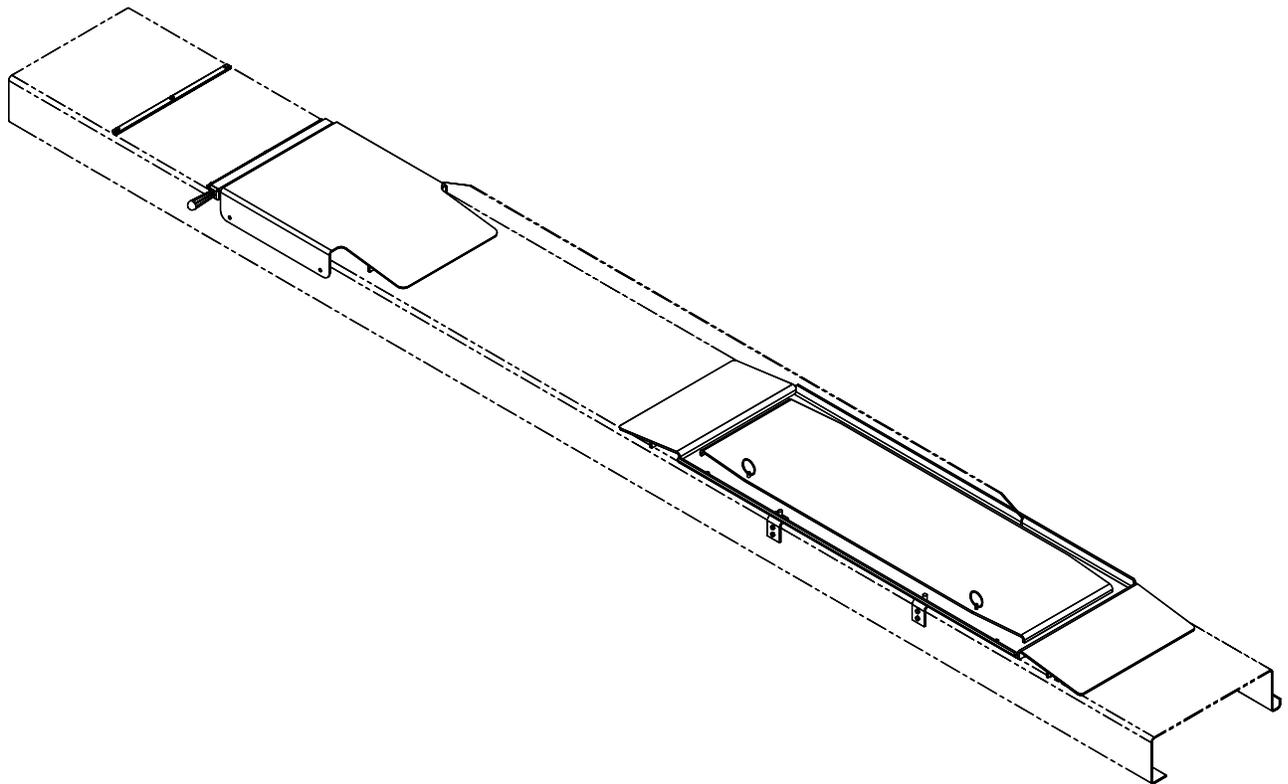

**FIG 5**
- c. Attach the 1/4 NPT to 1/4" hose fitting to the 1/4" NPT brass elbow provided with F.L.R. kit. Insert the 1/4" plastic hose in the fitting and route around the jack as shown in **FIG 5** below.